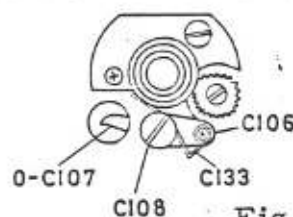

Fig. 22
*1 Take notice of direction, refer to Fig. 22.